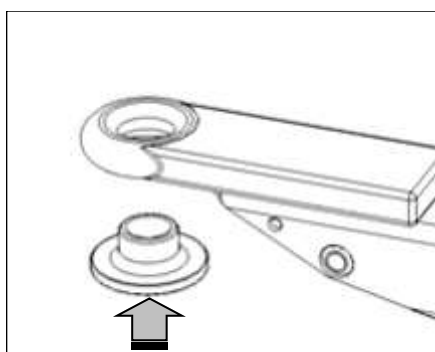

Fig. 16
5. The bush is fitted from underneath so the large flange slides on the tractor drawbar and prevents metal-to-metal contact. It could be a tight fit and may need to be tapped in with a mallet or hammer (Fig. 16).